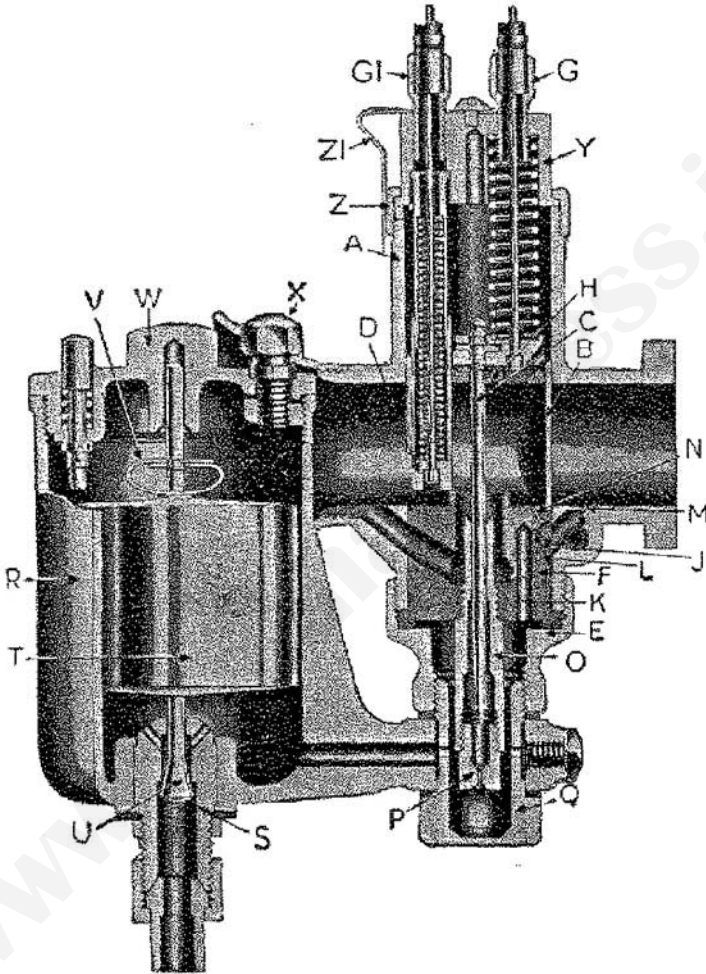

FIG. 8. SECTIONAL VIEW OF AMAL STANDARD NEEDLE-JET CARBURETTOR FITTED TO ALL 1945-54-MODELS
An understanding of the working of the standard Amal carburettor is desirable before considering its tuning and maintenance. Referring to Fig. 8, showing a sectional view of the Amal semi-automatic carburettor, (A) is the carburettor body or mixing chamber, the upper part of which has a throttle valve (B), with taper needle (C) attached by a needle clip. The throttle valve regulates the quantity of mixture supplied to the engine. Passing through the throttle valve is the air valve (D), independently operated and serving the purpose of obstructing the main air-passage for starting and mixture regulation. Fixed to the underside of the mixing chamber by the union nut (E) is the jet block (F), and interposed between them is a fibre washer to ensure a petrol-tight joint.
To gain access to the pilot jet on the standard carburettor (see Fig. 8), remove the jet plug (Q) and the float chamber (R), and then detach the jet block (F) by pushing or tapping it out of the mixing chamber. The pilot jet (J) can then be cleared by blowing through it, or by means of a very fine strand of wire.
Dismantling Standard Carburettor. First close both petrol taps and disconnect the twin petrol pipes from the carburettor by undoing the single union-nut at the base of the float chamber. Referring to Fig. 8, loosen the jet plug (Q) and slacken the mixing chamber union-nut (E).
Assembling Standard Carburettor. Referring to Fig. 8, refit the jet block (F) with the fibre washer on its under-side, and screw on lightly the mixing chamber union nut (E). Screw in the needle jet (O) and the main jet (P). Open the air lever 7/8 in. and the throttle twist-grip half way; grasp the air slide between the thumb and the finger and make sure that the jet needle enters the central hole in the barrel (H). Slightly turn the throttle slide until it enters the barrel guide when, on pushing down the slides, the air valve should enter its guide. If not, slightly move the mixing-chamber cap (Y), when the air valve will slide into position. Screw home the mixing chamber knurled cap-ring (Z). No force is necessary.
Insert the jet plug (Q) in the union nut (E) and very firmly tighten the union nut with a suitable spanner. Remove the jet plug, fit the float chamber, and secure with the jet plug. Be sure there is a fibre washer above and below the float-chamber lug as shown in Fig. 8. When the float chamber has been correctly positioned, tighten the jet plug firmly. Finally reconnect the twin petrol pipes and tighten the union nut at the base of the float chamber. In the event of the pilot-jet adjustment having been disturbed, re-tune as described on page 17.